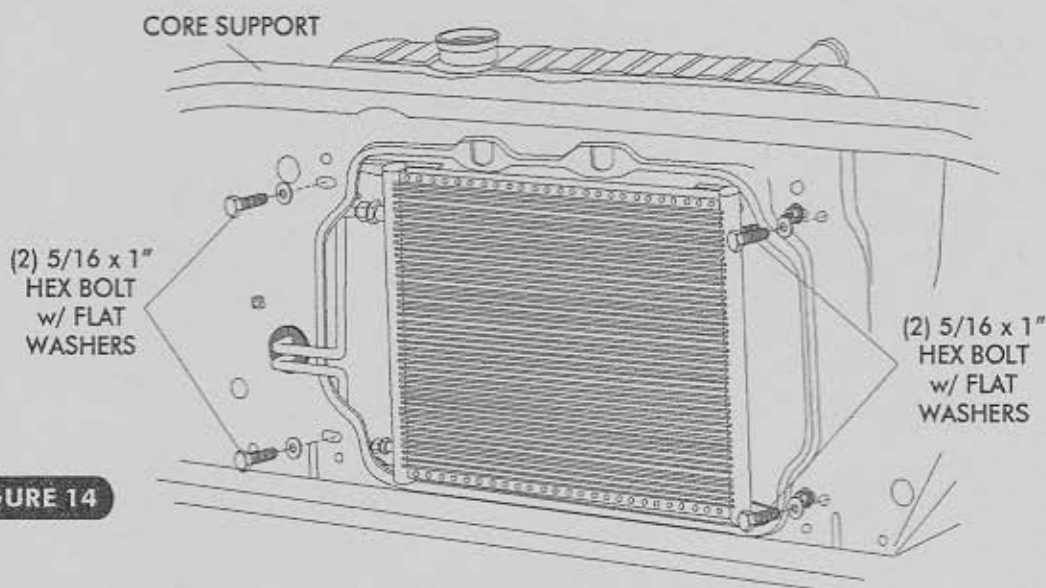

FIGURE 14
- WITH THE CONDENSER AND HARDLINES IN PLACE REMOVE THE TEMPORALLY INSTALLED PASSENGER SIDE (2) 5/16 x 1" HEX BOLTS WITH FLAT WASHERS AND HEX NUTS.
- INSTALL THE RADIATOR, USE (4) 5/16 x 1" HEX BOLTS WITH FLAT WASHERS TO SECURE THE RADIATOR TO THE CORE SUPPORT AS SHOWN IN FIGURE 14 BELOW.